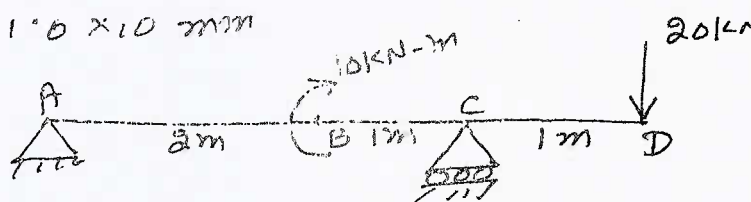

Fig. Q6(b)
- b. Determine the deflection at B and D for the beam shown in Fig. Q6(b). Take $E = 210 \text{ GPa}$ and $I = 1.6 \times 10^7 \text{ mm}^4$. (12 Marks)